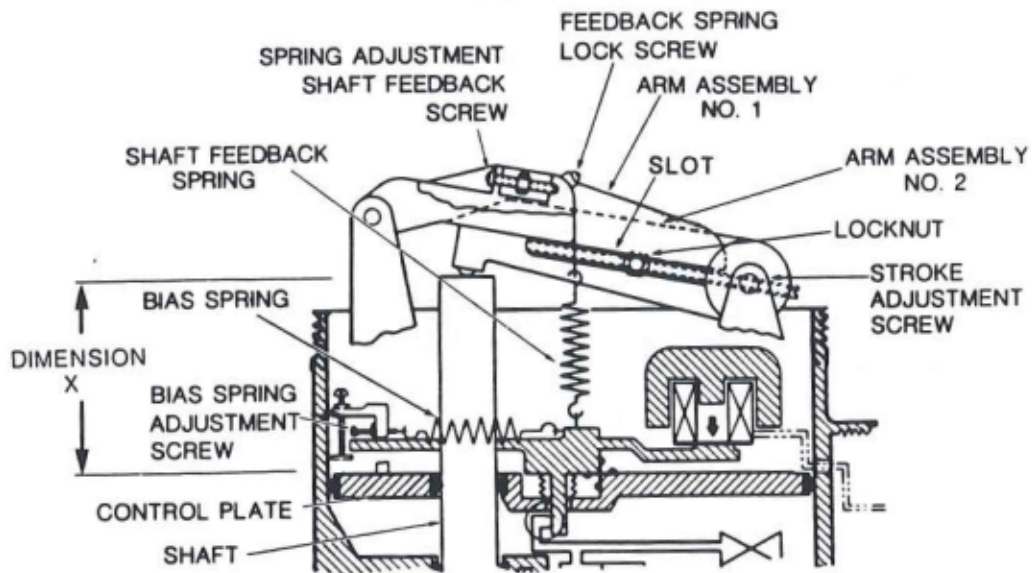
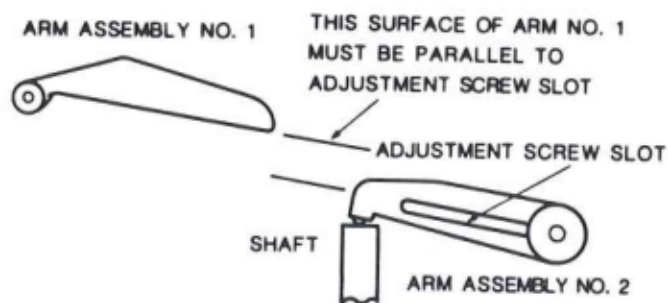

Figure 3-8. Stroke Adjustment for Push Type Models
Figure 3-9. Determining Parallelism
#### 3.3.2 50% Position Calibration (see Figures 3-8 and 3-9).
- 2). Verify proper control signal input polarity. If polarity is not correct, terminal No. 3 wires may be reversed due to reversed coil. Temporarily reverse the mA control signal wires and disconnect the bias spring (Figure 3-8).
- 3). Adjust the mA control signal to the 50% position (Table 3-1). The top edge of the slot in arm assembly No. 2 and the bottom edge of arm assembly No. 1 should be visually parallel (Figure 3-9). If not, loosen the feedback spring lock screw, then turn the feedback spring adjustment screw clockwise or counterclockwise to accomplish a parallel condition. Tighten the feedback spring lock screw (Figure 3-8).
- 2). Carefully measure dimension X from the controller assembly plate to the top of the Hydramotor shaft. Use a 6-inch steel ruler (see Figure 3-9).
- 6). Loosen the lock nut (located between the two arm) using a thin 1/2" open end wrench. Turn the adjustment screw clockwise or counterclockwise as necessary to cause the shaft to move to the value determined in Step 4. Tighten the lock nut. (see Figure 3-8)
- 7). Adjust the control signal to maximum (Table 3-1). Measure dimension X (see Figure 3-9), then subtract this value from the value determined in Step 4. The result should equal the PCD usable stroke. If not, repeat the above adjustment procedures.